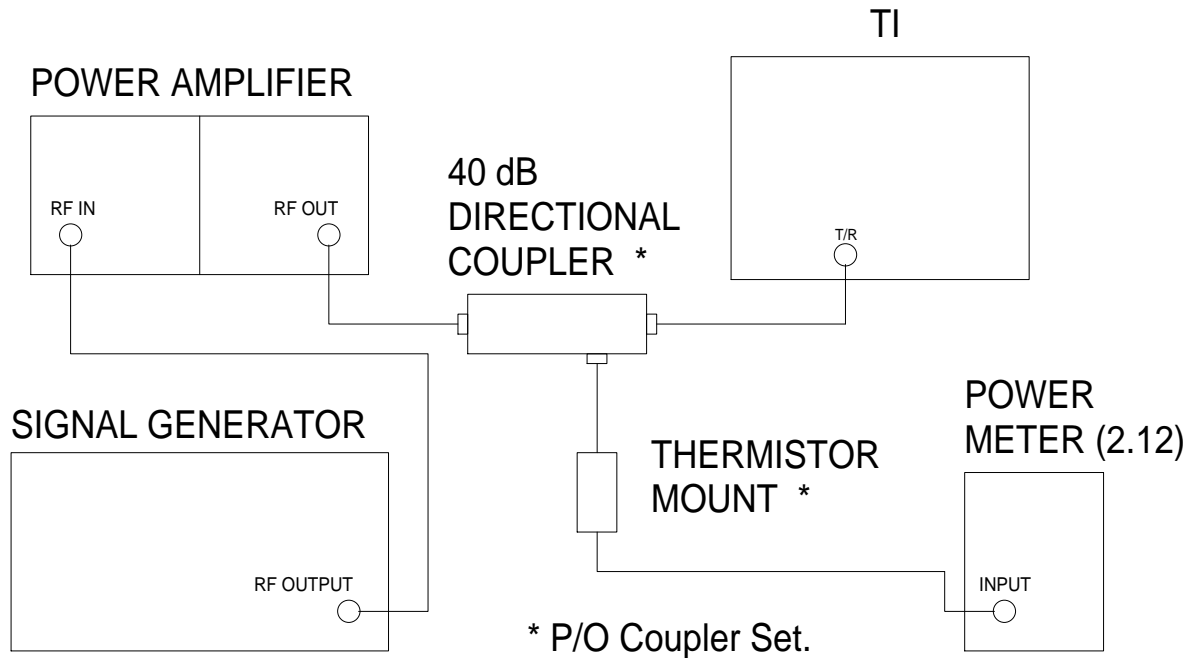

Figure 2.
4.8.2 Connect equipment as shown in Figure 2.